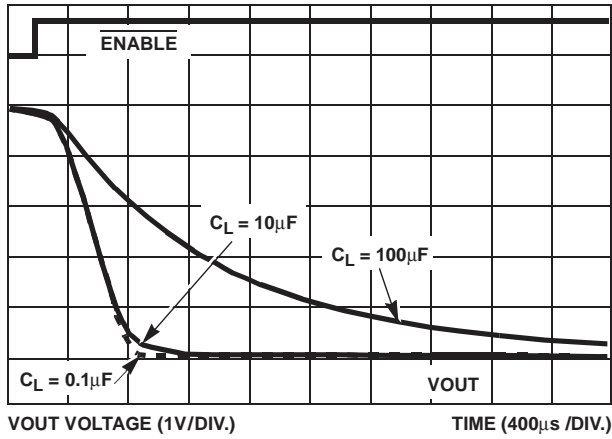

FIGURE 8. SLOW TURN -OFF vs C_{LOAD} , $R_I = 10\Omega$
The ISL6436 has two shutdown modes. When turned off with a load current less than the current regulation (CR) level the ISL6436 shuts down in a controlled manner using a 500nA constant current source controlled ramp. When latched off due to CR and the timer has expired, the ISL6436 quickly pulls down the output thereby quickly removing the faulted load from the voltage bus. See Figures 8 and 9 for waveforms of each mode.